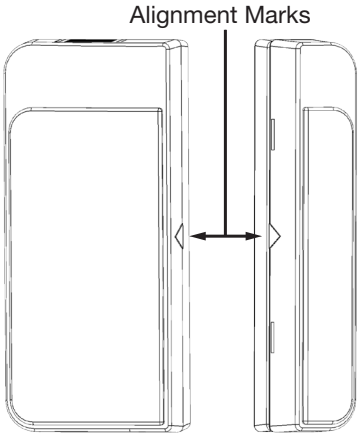

Figure 1
- Make sure the alignment arrow on the magnet points to the alignment mark on the sensor (see **Figure 1**).
- When mounting the magnet, line up the arrow on the magnet with the middle line on one side of the sensor (see **Figure 1**). Mount the magnet no more than 0.4 in. (1 cm) away from the sensor. Be sure to secure the magnet with adhesive.